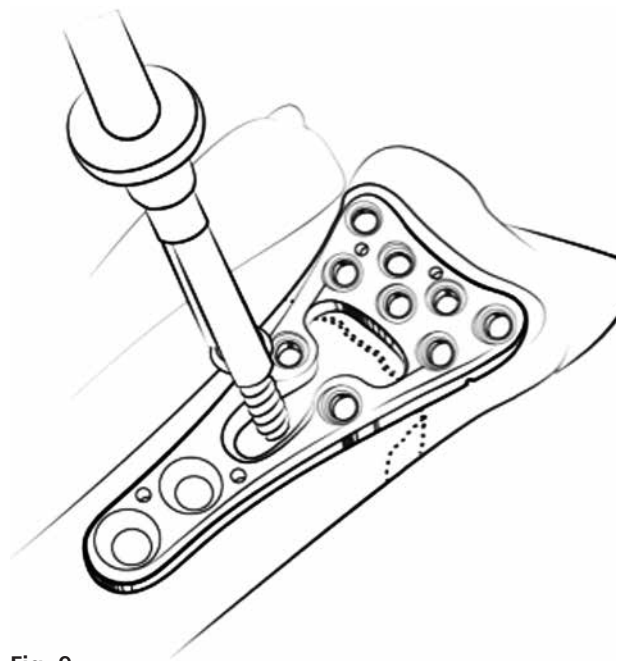

Fig. 9
10. Use the depth gauge (DH0450CE) to measure the bi-cortical screw. Select a 3.5mm cortical shaft screw that, when fully inserted, will engage both cortices and extend past the opposite cortex by 1mm. Insert this in the CENTER of the oblong hole to allow for adjustment of the plate, as necessary, during final reduction (**Fig. 9**).